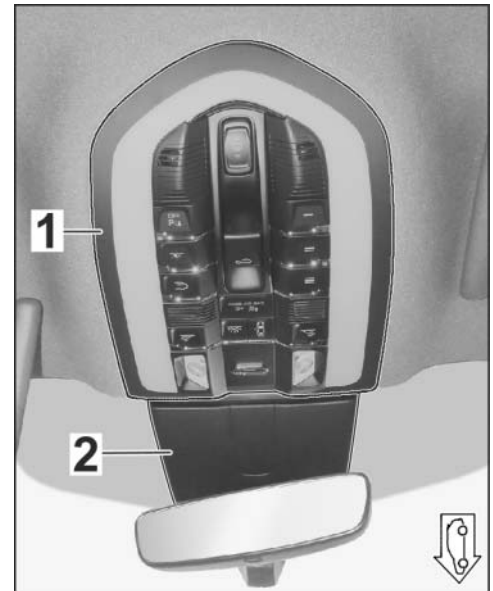

Figure 3
- 1.2 Front roof / rear-view mirror area (interior ⇒ *Figure 3*)